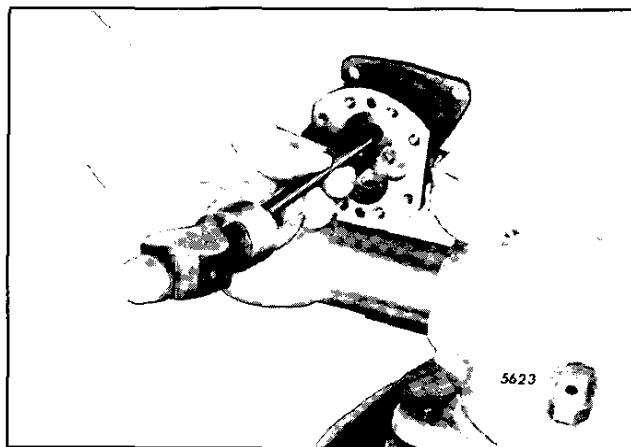

Fig. 5 - Removing Oil Seals
7. If the oil seals need replacing remove them with oil seal remover J 1508-13 (Fig. 5). Clamp the pump body in a bench vise and tap the end of the tool with a hammer to remove the outer and inner seals. Observe the old seals to permit installation of the new seals in the same position.